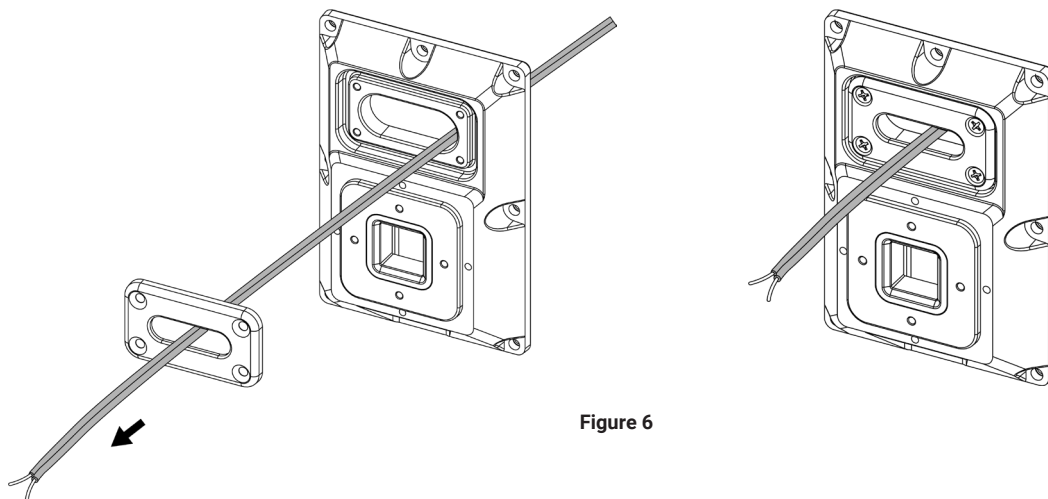
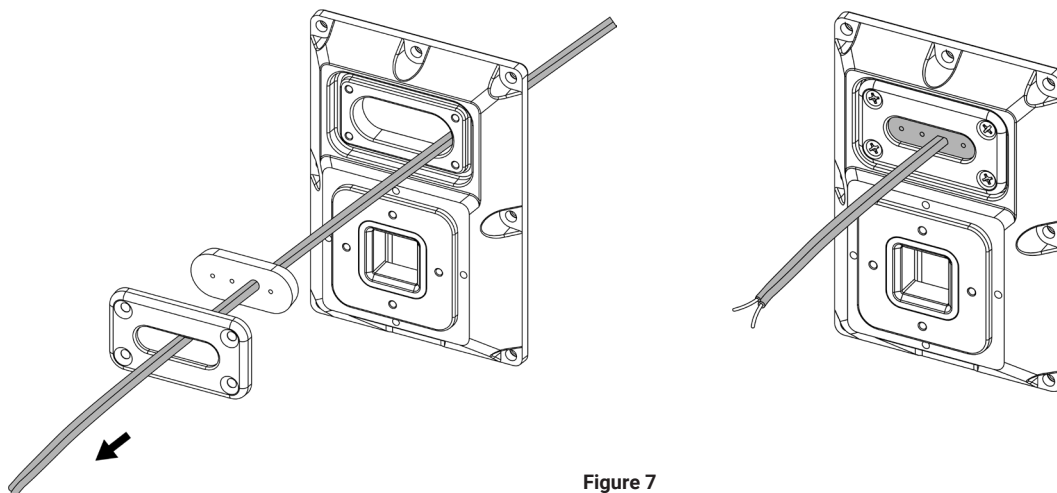

Figure 6
Figure 7
Pull loudspeaker wires from inside the wall through the hole in both the wall mounting plate and grommet plate (Figure 6). Secure grommet plate to mounting plate using the four (4) screws removed in step 2. Optionally, feed the wire through the rubber grommet, fit in between the mounting plate and grommet plate (Figure 7). If the wire cannot be pushed through the grommet, repeat Step 6 with a larger diameter drill bit. This may require stepping up the drill bit diameter until the wire can be pushed through the drilled hole.